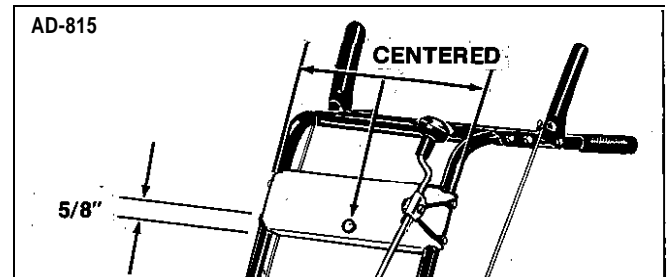

Figure 2.
1. Drill a 13/32" hole, 5/8" from bottom and centered (approx. 6-1/2" from either end) on the crossmember as shown in figure 2.